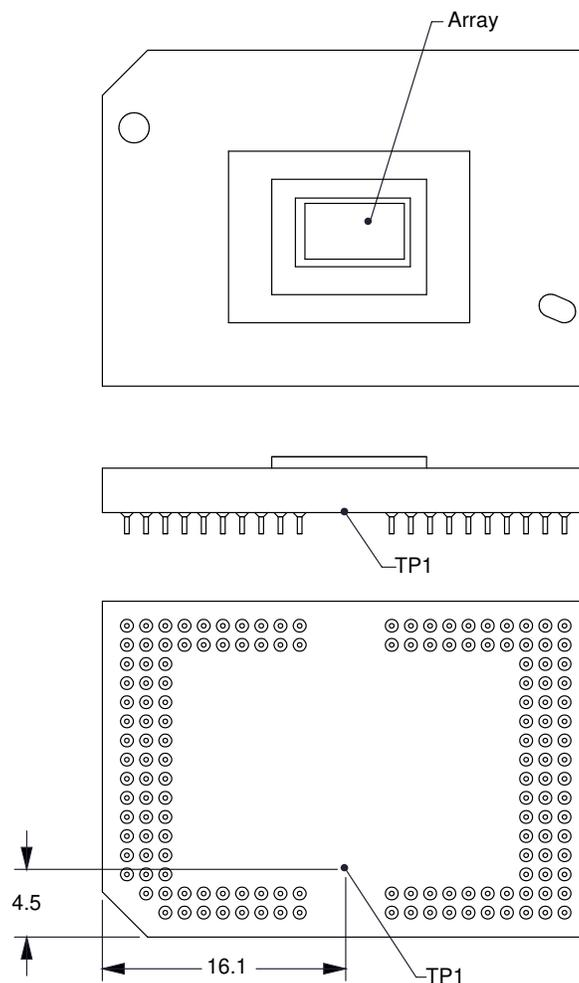

Figure 17. Thermocouple Locations
Relationship between array temperature and the reference ceramic temperature (thermocouple location TP1 in Figure 17) is provided by the following equations.
- $T_{\text{CERAMIC}}$  = measured ceramic temperature (TP1 location in Figure 17) (°C)
- DMD Absorption Constant = 0.42 (2)